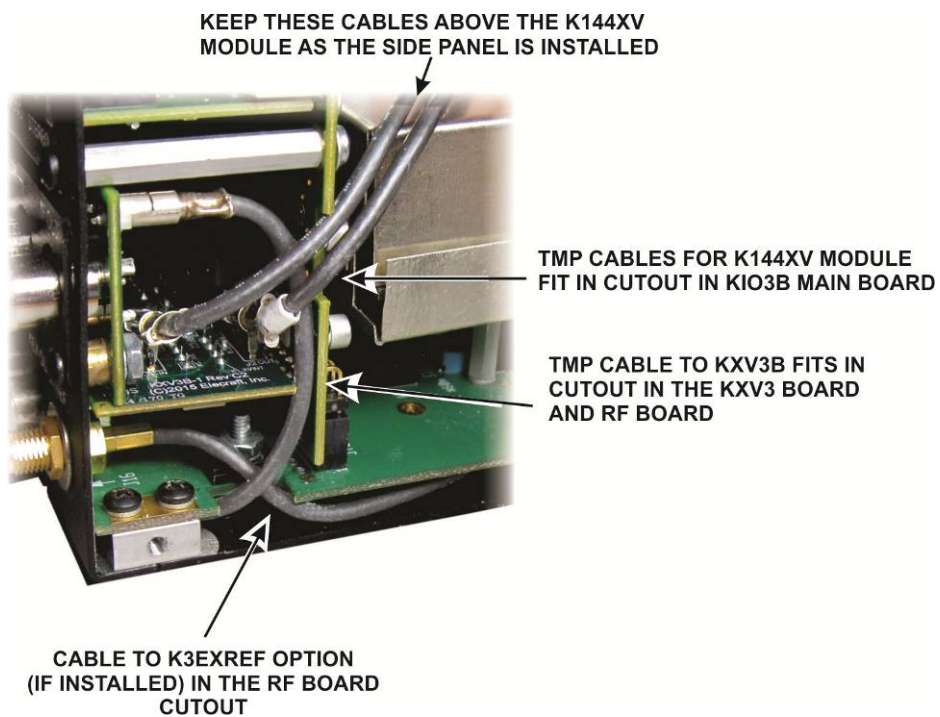

Figure 10. Positioning the TMP Cables in Preparation for Installing the Side Panel.
- Be sure the two TMP cables have not pulled loose from the KXV3 module (see Figure 10). Note the location of the marked TMP cable.
- Carefully dress the cables into the notch in the KIO3B main board as shown in Figure 10.